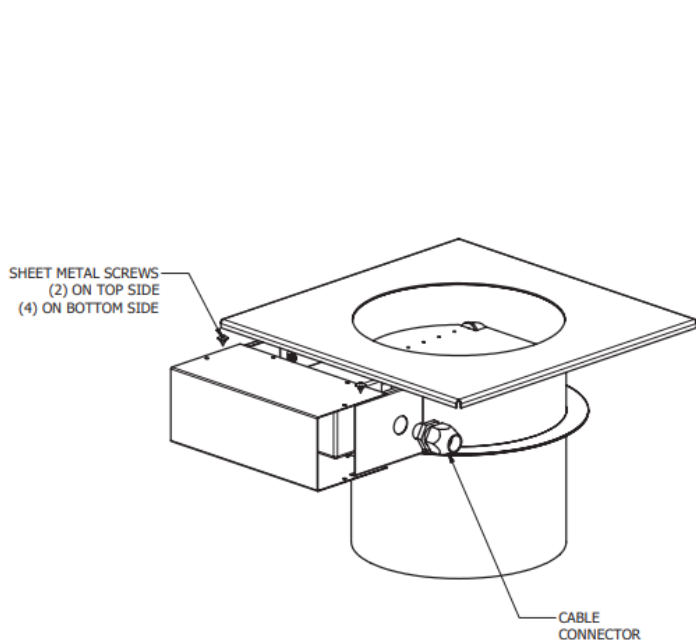
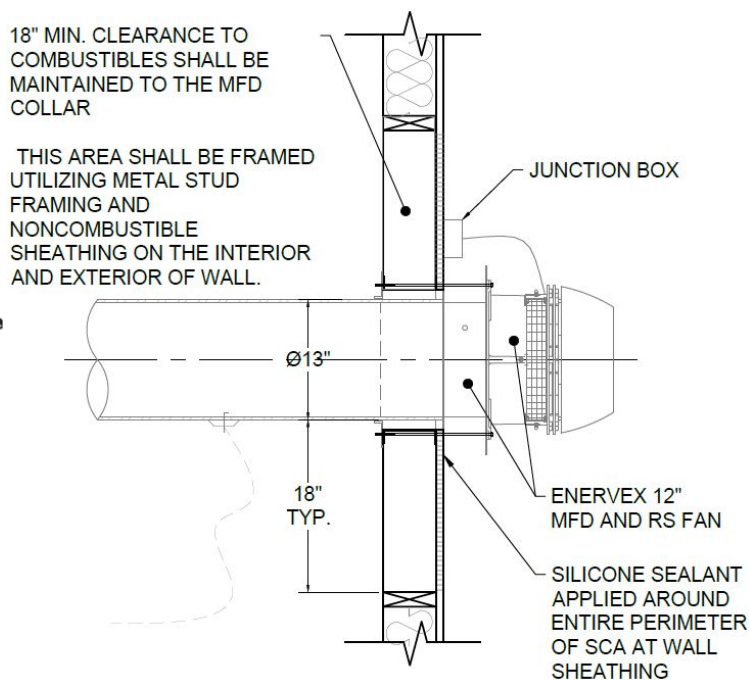

FIGURE 33
FIGURE 34
- 1) Before installing the MFD on the chimney, a power cable should be wired to the actuator and the actuator cover should be secured (**Figure 33**).
- 3) Use (6) of the included sheet metal screws to secure the actuator cover to the MFD. Once secure, apply a bead of silicone around the seams of the cover.
- 4) Mount the MFD outdoors at the end of a steel chimney. Slide the collar of the MFD into the steel chimney until the damper rests on the stop flange. Sheet metal screws may be installed around the collar into the chimney for additional support. Fasten the MFD to noncombustible framing with metal fasteners or bolts with locking nuts (**Figure 34**).